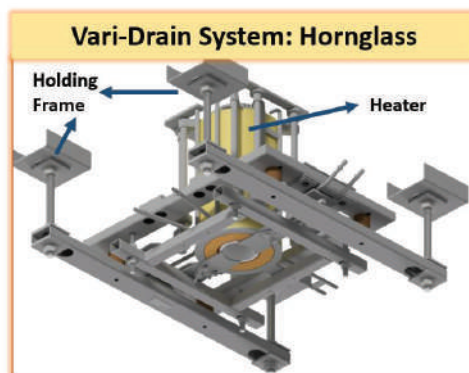

Figure 4.27
- Conti-drain or Vari-drain is recommended in conditioning zone. This will be useful for avoiding cat-scratch defect in speciality bottles. Also suitable to maintain draw in particular forehearth, especially in speciality glass production. Images of Conti-drain (SORG) and Vari-Drain (HORN Glass) are shown in Figure 4.27.